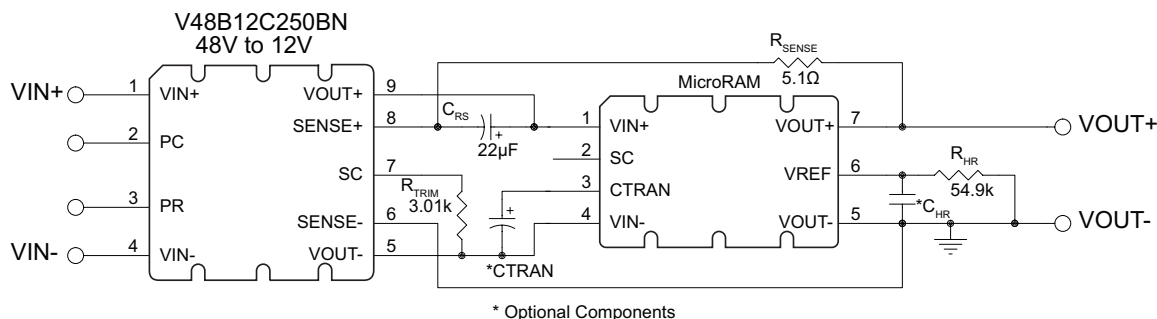

Figure 10 — Typical configuration using remote-sense control and a 12V converter trimmed down to 9V;  $R_{HR}$  set for 375mV of headroom voltage
In Figure 10, a 48V to 12V Vicor Mini converter is used to create a 9V output supply. The converter is trimmed down from 12V to 9V, using a 3.01kΩ resistor from the converter's SC to its VOUT– pins, then uses the remote-sense pins, along with the RRS and CRS components, to maintain proper output voltage and converter stability. Again, the headroom voltage is designed to be 375mV.
**Note:** The screen shots shown in Figure 17 are of the output filter calculator program, a tool which can be used to calculate the resistor values needed in the circuits shown in Figure 10 and Figure 11. This program is a Windows based executable file that is available to Vicor Applications Engineering, and which can also be made available to our customers upon request. To request a copy of the program please contact your local Vicor Field Applications Engineer or email your request to [apps@vicorpower.com](mailto:apps@vicorpower.com).